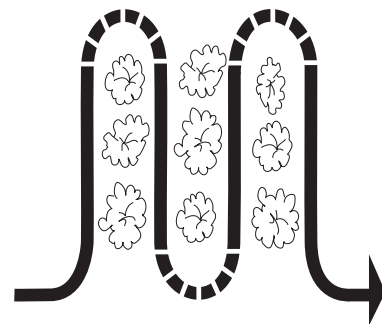

Figure 18
- When cultivating (breaking up surface soil around plants to destroy weeds, see Figure 18), adjust the tines to dig only 1" to 2" deep. Using shallow tilling depths helps prevent injury to the plants whose roots often grow close to the surface. If needed, lift up on the handlebars slightly to prevent the tines from digging too deeply. (Cultivating on a regular basis not only eliminates weeds, it also loosens and aerates the soil for better moisture absorption and faster plant growth.) Watering the garden area a few days prior to tilling will make tilling easier, as will letting the newly worked soil set for a day or two before making a final, deep tilling pass.